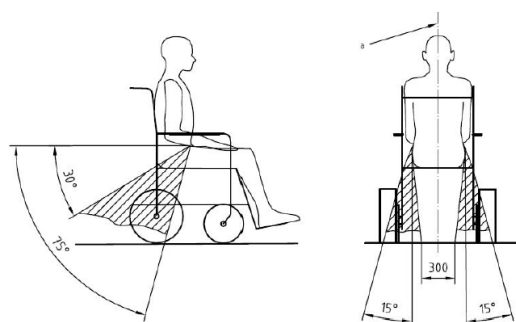

Figure 3: Preferred and optional angles for location of the lap belt.
The angle for the pelvis part (2) of the safety belt must be in angle of 30- 75° with the horizontal plane (see figure 3). Also the side angle should stay between the vertical plane to maximum of 15° angle with the vertical plane (see figure 3).